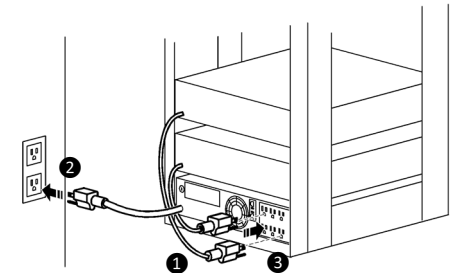

Figure 3
**STEP 3:** Connect wiring & charge UPS (Figure 3):